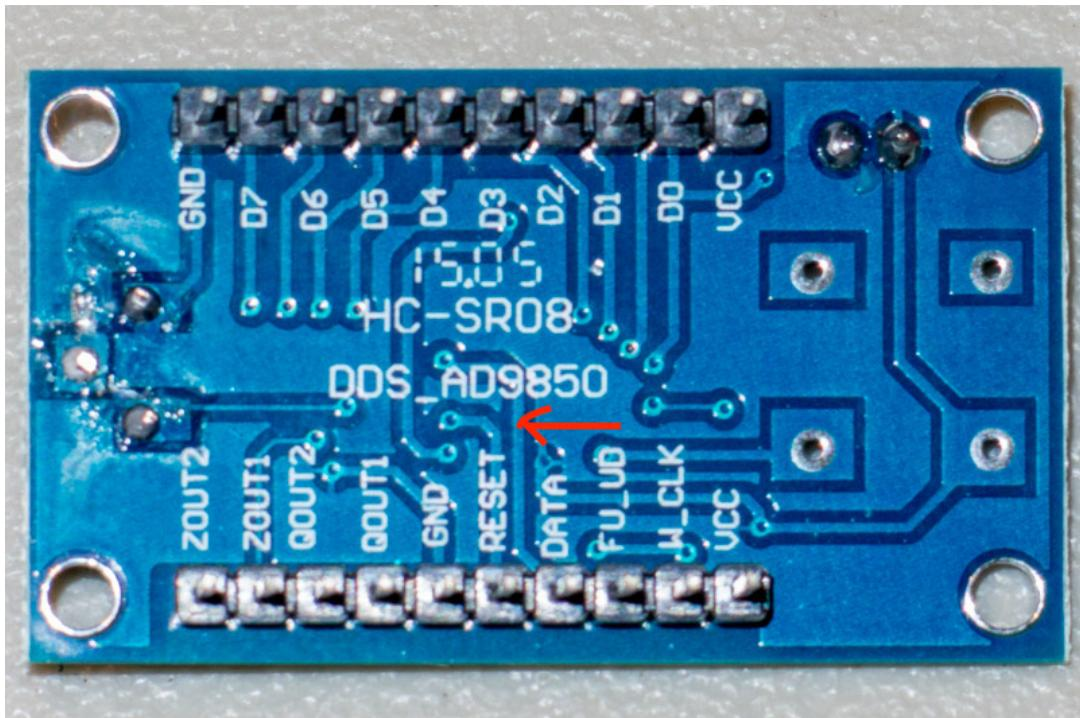
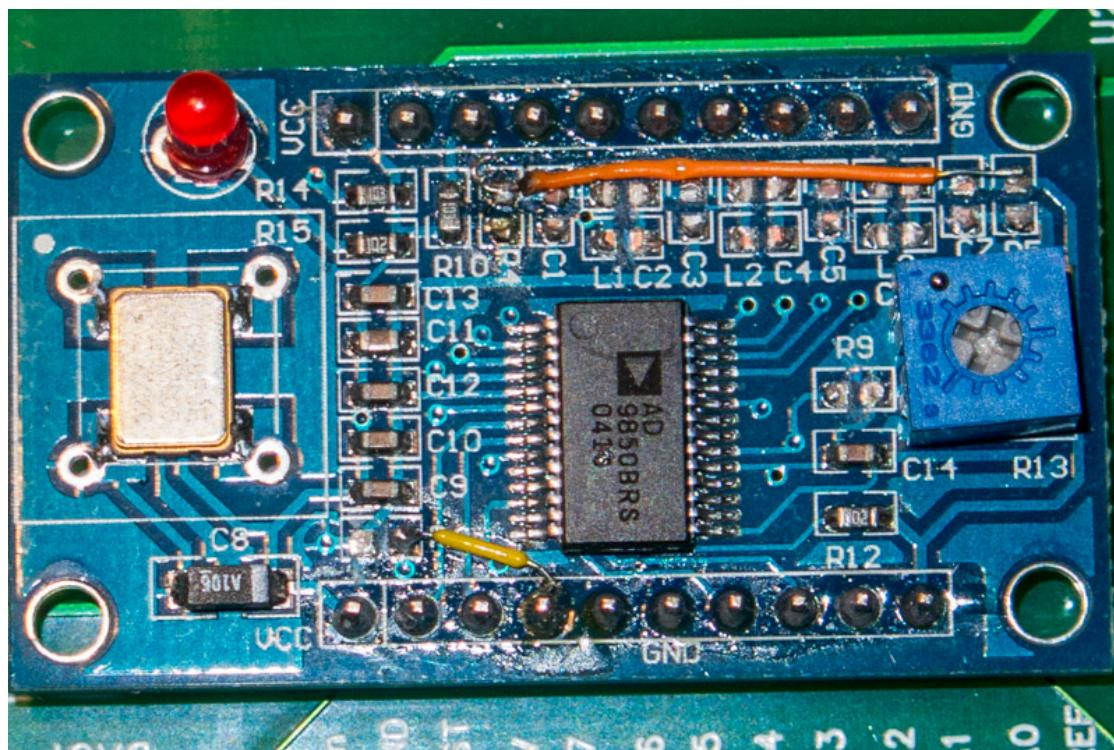

Figure 3 - Bottom view of DDS module
Figure 4 - Top view of DDS module
The first job is to bring the RSET pin (12) out to the connector. To free up the pin you have to cut the trace pin labeled as DATA, which is the same as pin D7 so that pin is now used as the serial data pin. Cut the trace where the red arrow points. See Figure 3. Then remove the 3.9K resistor, R6. Finally solder a wire from 3.9k resistor R6 pad closest to the AD9850 chip to the freed up DATA pin. See the photo in Figure 4.